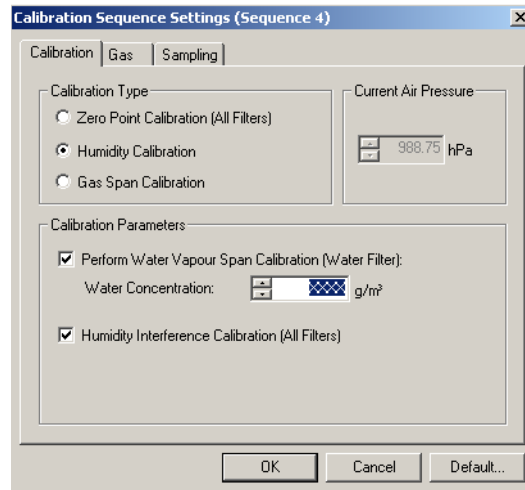

Figure 27. Sequence Settings index cards for Humidity Calibration.
- Or you can perform humidity-interference calibration in *Humidity Calibration*, see Figure 27, in the same Calibration Task. A new humidity gain factors can be calculated at the end of calibration, which is explained in section 5.2 *Calculating and downloading*.
- You have to perform humidity-interference calibration in *Humidity*, see Figure 27, in the same Calibration Task. The humidity-interference can be performed together with water-vapour span calibration. A new humidity gain factors can be calculated at the end of calibration, which is explained in section 5.2 *Calculating and downloading*.
When the Humidity Calibration button is selected, see section 4.2 *General settings*, two check boxes will appear in the *Calibration Parameters* field, see Figure 27. The button *Perform Water Vapour Span Calibration* needs to be selected if the absolute water-vapour concentration in the samples needs to be measured. In this case it is necessary to enter the water concentration in the gas which is used, details of the water concentration calculations are explained in section 4.4.1 *Water concentration calculation*. Button *Humidity Interference*